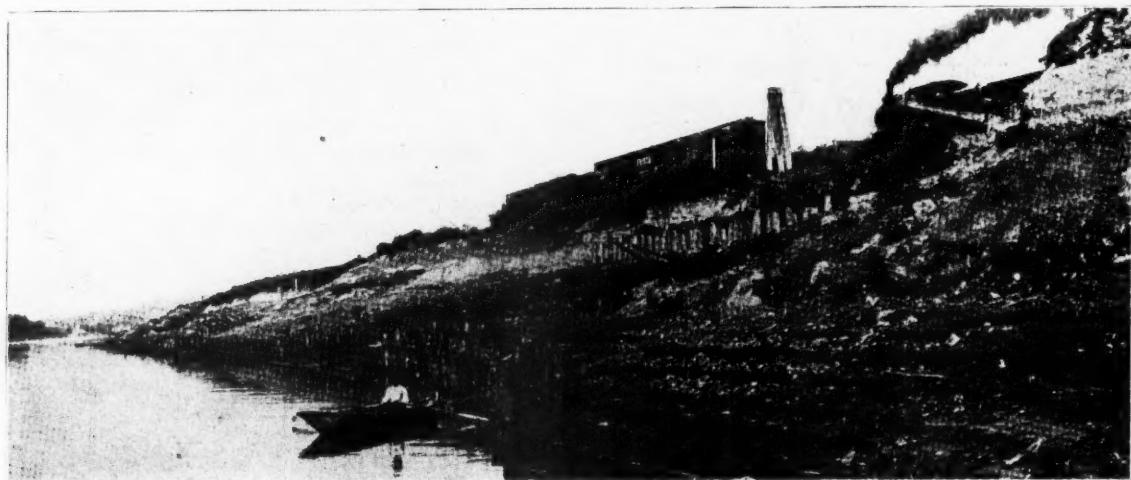

Fig. 2. Slide in Front of A. & V. Property, Vicksburg.
2. By building the stringers or girders supporting the ties so that their tops will be out of level (Fig. 2).
2. Thirteen replies favor the scheme in Fig. 2. A few object to it on account of dapping the ties across the grain. Cases are numerous where ties have split when so dapped, necessitating bolts. The scheme is applicable to deck and through girders as well as to truss bridges.
Fig. 2 shows a new slide developing further down the river, with piling driven to check the same. For this work a floating pile driver equipped with a No. 1 Vulcan steam pile hammer, was used, weighing 10,500 pounds. The piles were driven with the butt ends down, which offers more resistance and strength at the bottom of the slide where it is most needed. The driving of 40 or 50 piles constituted a day's work.